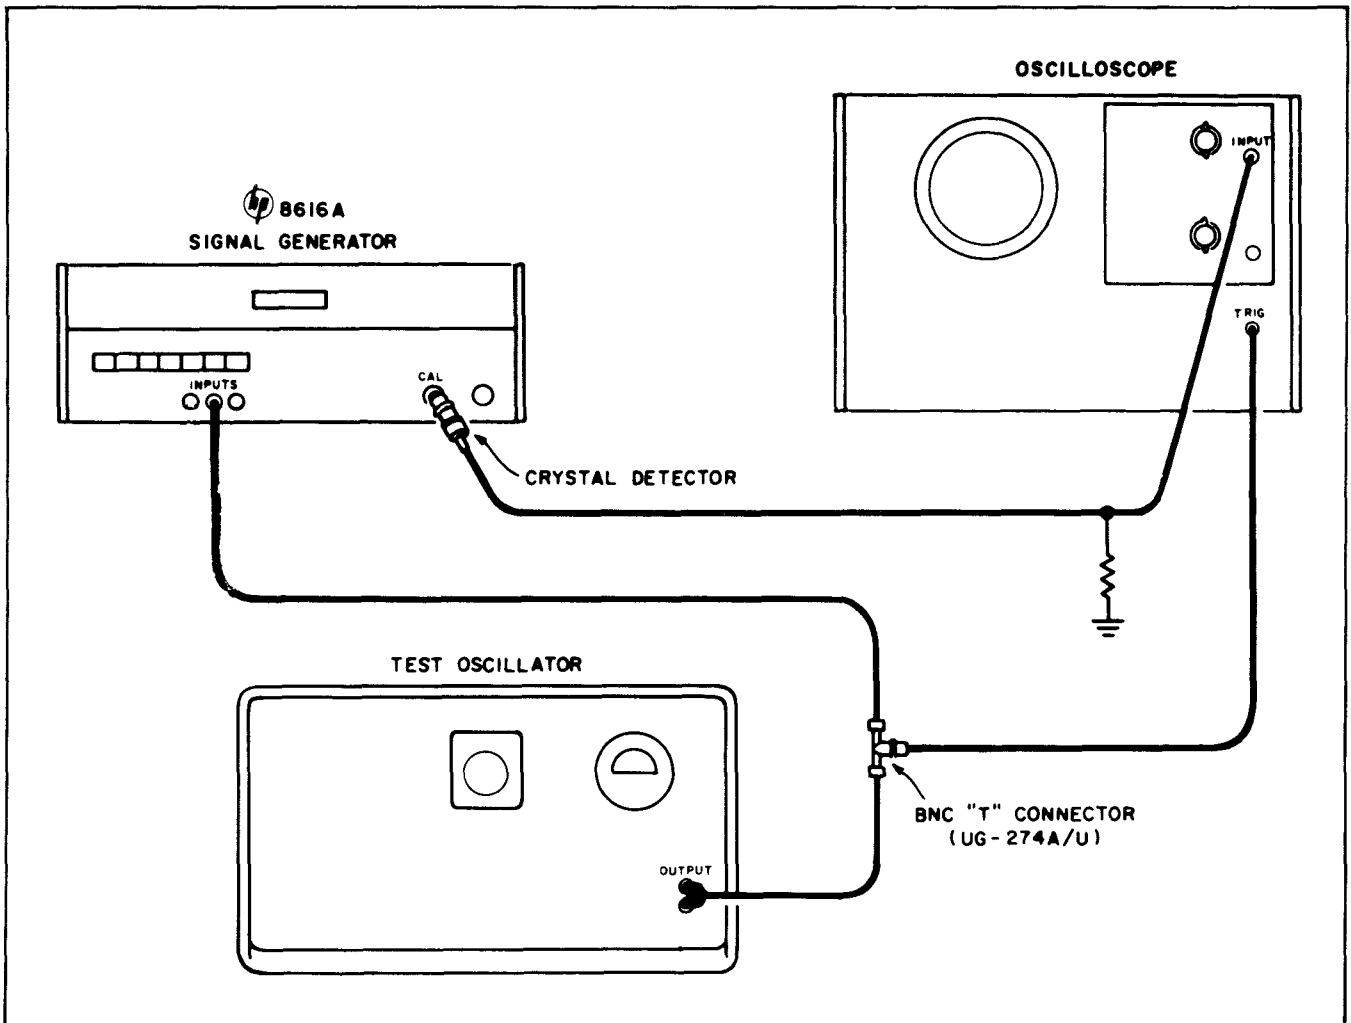

Figure 5-10. External AM Check
- a. Connect instruments as shown in Figure 5-10.